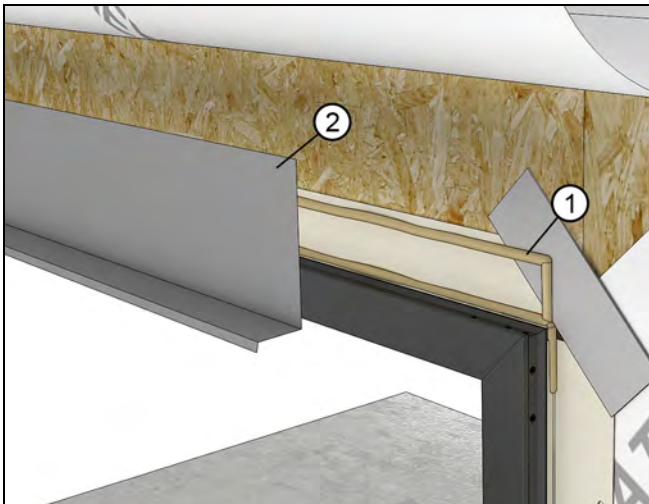

Figure 271
4. Install a rigid head flash. Apply sealant to all surfaces that will come in contact with the flashing. Flashing should extend past the window frame by at least 1/8" (3) on each side. See Figure 271.